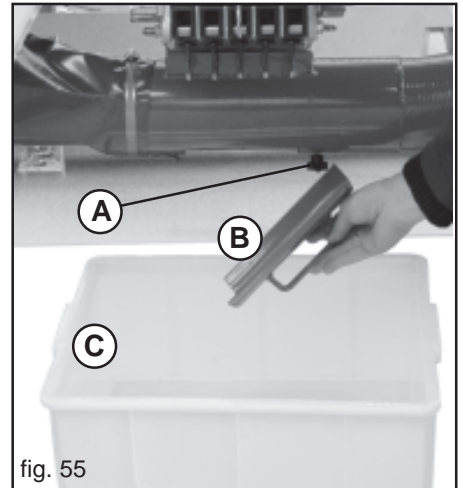
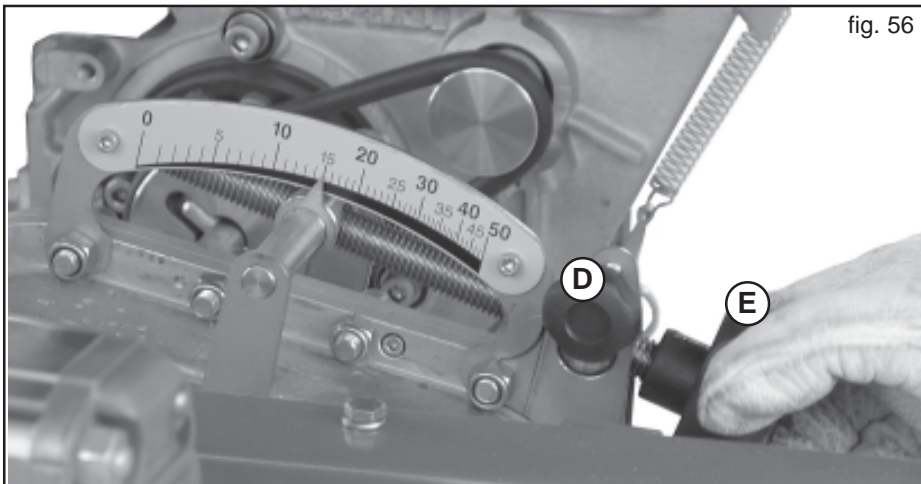

fig. 55
fig. 56
- 2) To loosen the knob (A, Fig. 55) and to remove the hatch (B).
- 3) Position the product tray underneath the discharge outlet (C).
- 4) Loosen the fastening screw on the gear adjuster (D, Fig. 56), and bring the graded indicator to the required position (depending on the quantity of product to be distributed), by rotating the adjuster knob (E, Fig. 56).
- 8) Once the distributor test has been successfully performed, secure the fastening screw of the gear adjuster once more (D, Fig. 56).